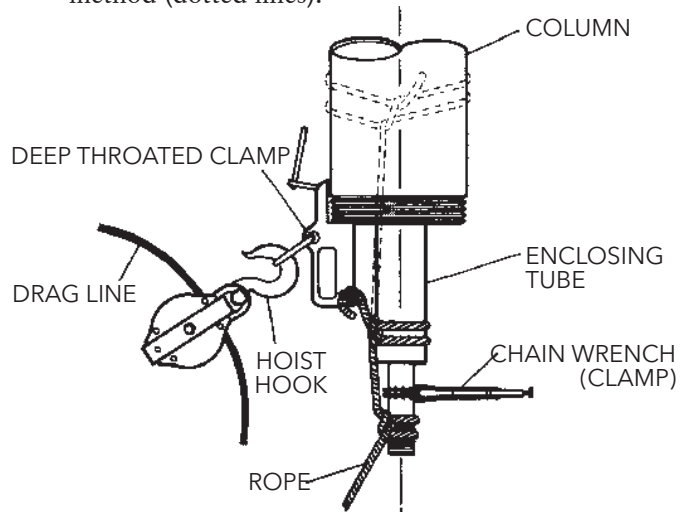

Figure 6
1. If the stuffing box (See Fig. 6) is assembled to the head, remove it and all the attached piping.
Assemble stuffing box as shown in Figure 6.